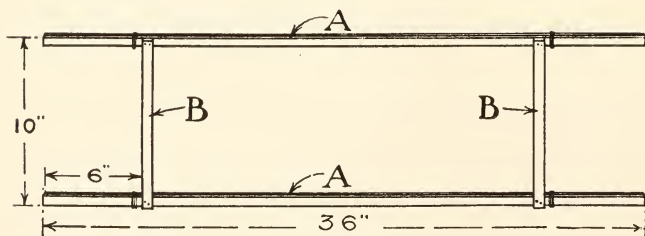

FIG. 25. — Make Two Side Frames like this.
**The Side Frames.** Cut the four horizontal sticks  $\frac{3}{8}$  inch thick and  $\frac{3}{8}$  inch wide, by 36 inches long (*A*, Fig. 25), and the four upright connecting sticks (*B*, Fig. 25)  $\frac{1}{4}$  inch thick,  $\frac{1}{2}$  inch wide, and 10 inches long. Tack the upright sticks to the horizontal ones 6 inches from the ends of the latter, as shown in Fig. 25, using slender brads for the purpose,
After fastening together the side-frame sticks as shown in Fig. 25, lay them aside until you have prepared
The notched ends of the diagonals should be *lashed* with thread to keep them from splitting. Lashings of thread around the frame sticks A, as shown in Figs. 25 and 27,